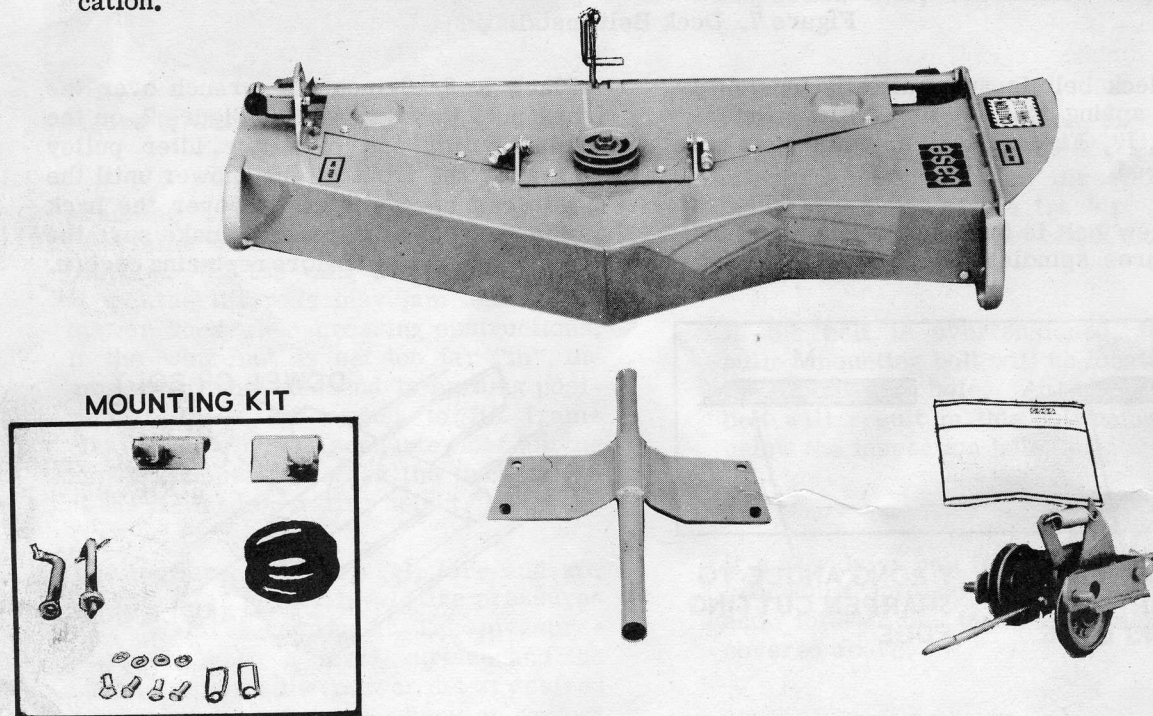

Figure 10. Mower Removed From Shipping Carton(s)
B. Before mounting the mower, lay out the individual parts as illustrated in Figure 10. To simplify the original installation, all components are preassembled as far as practical and the attaching hardware is installed in its proper location.